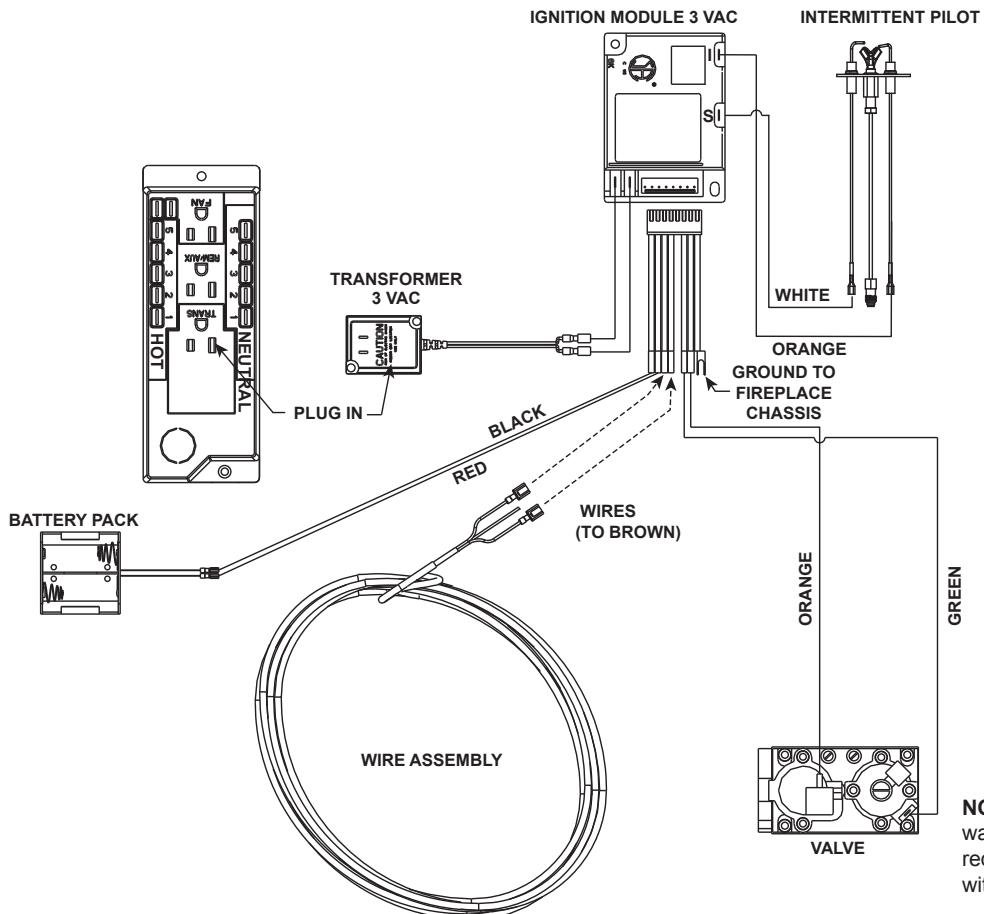

Figure 12.2 IntelliFire Pilot Ignition (IPI) Wiring Diagram with Wall Switch or Thermostat
- Refer to Figure 12.2, IntelliFire Pilot Ignition (IPI) Wiring Diagram.